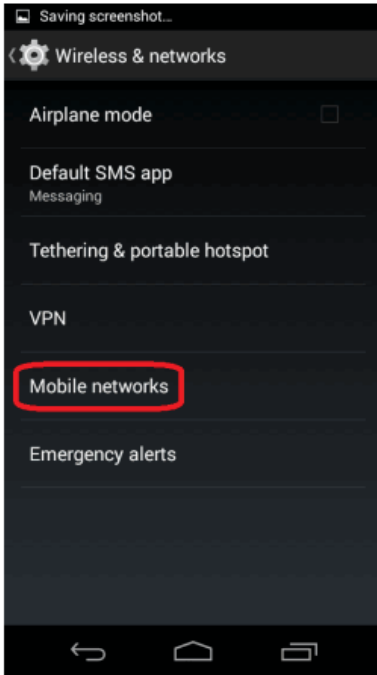
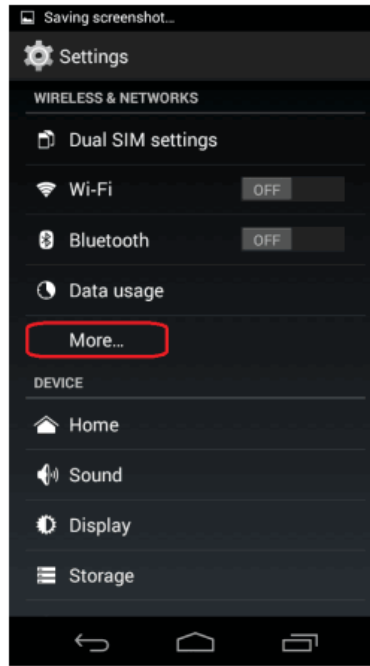

Figure 2
Figure 3
- Under Wireless & Networks, go to **mobile networks** (Figure 2). Click **more settings** (Figure 3).